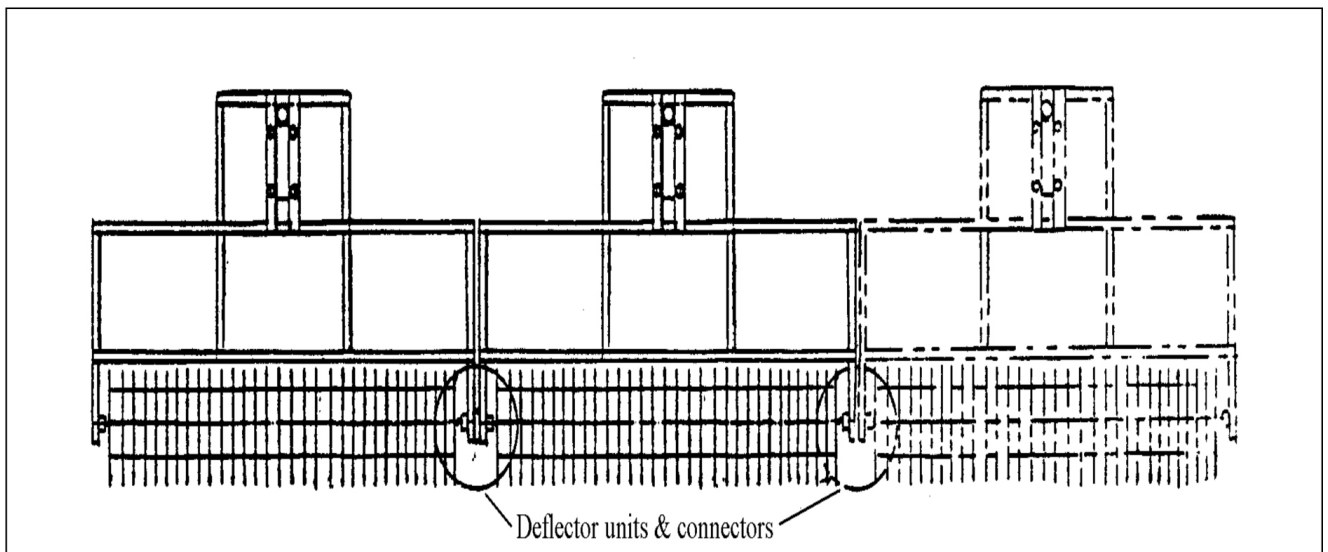

Figure 3: Joined picker gangs, 15-foot picker
1. Place the picker sections side by side in a straight line so that they are as close together as possible, with the ball deflector units between the pickers (see Figure 3).